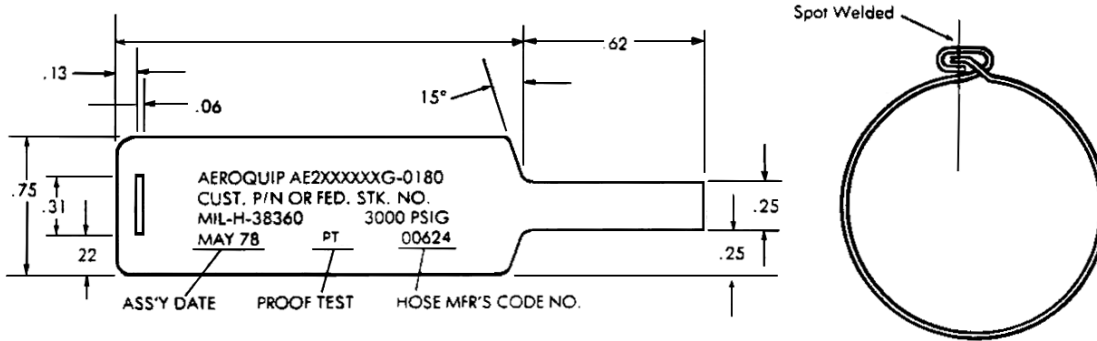

Figure 5: Identifying metal band
- 2. Hose Assembly Tag Identification — All factory assembled hose assemblies are identified with a metal band. Identification may include such information as customer part number, Federal Stock Number if required, hose assembly specification number, operating pressure in psig, manufacturer’s assembly part number, proof test symbol, date of assembly, and hose manufacturer’s Federal Code Number. See **Figure 5**.
All factory assembled hose assemblies are identified with a metal band (Figure 5) containing part numbers, date of assembly, etc. A detailed explanation of the different elements of a hose assembly part number is shown in Figure 6.